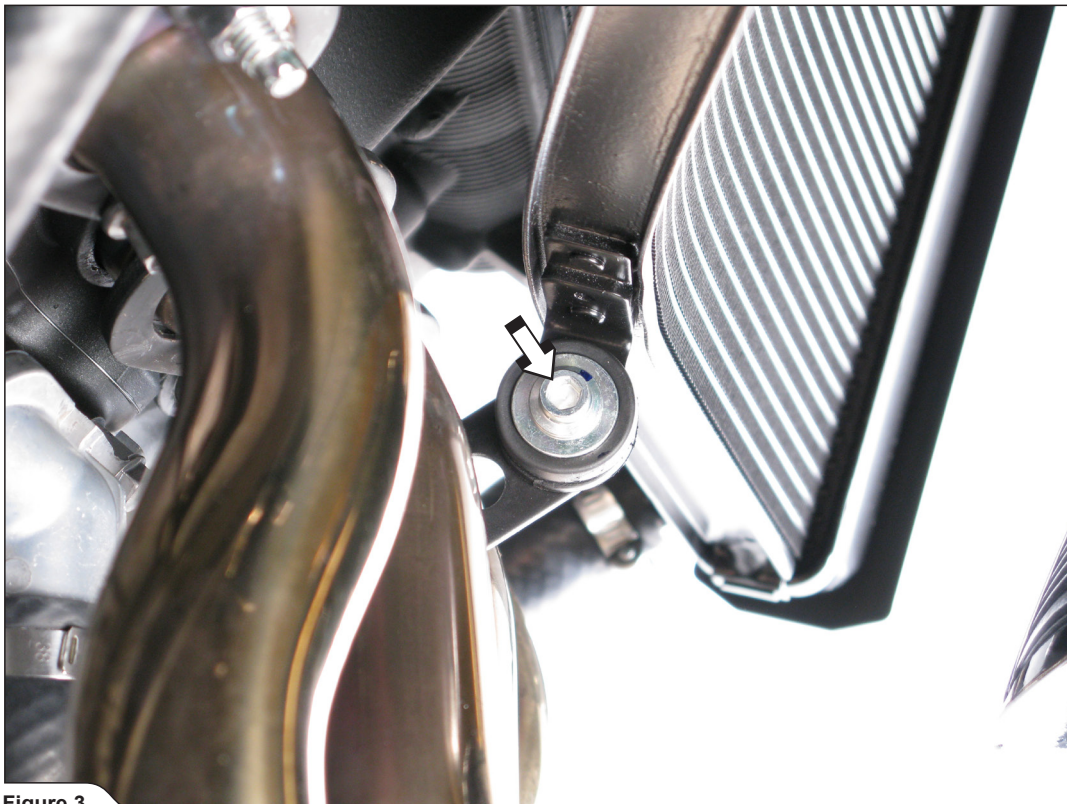

Figure 3
4. Unscrew the marked radiator's bracket bolt and partially move the radiator out of the way (**Figure 3**).